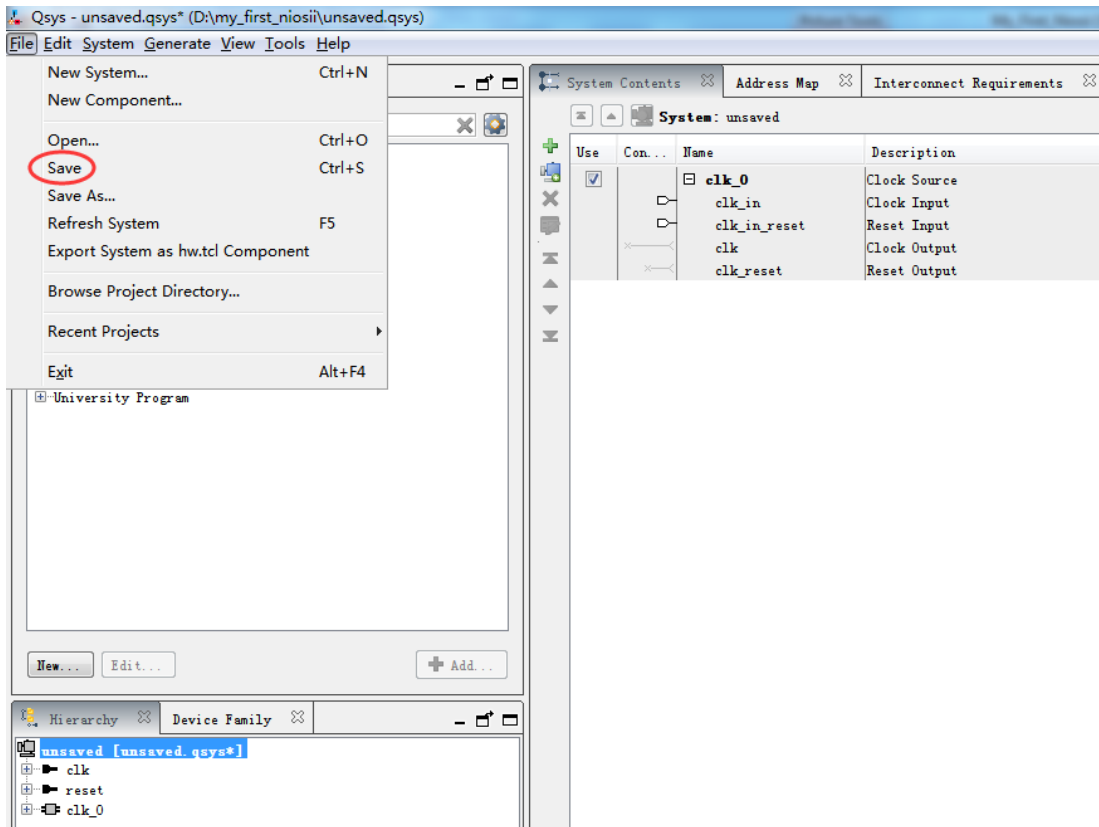
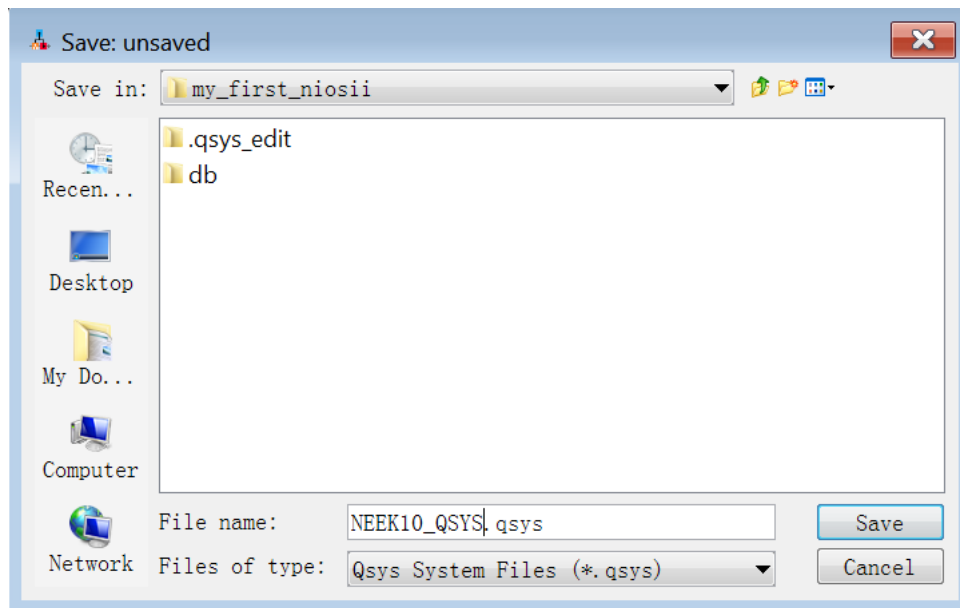

Figure 1-11 Select File -> Save in Qsys
Figure 1-12 Enter "NEEK10_QSYS.qsys" as the file name
6. Choose **File** -> **Save** and enter “NEEK10_QSYS.qsys”, as shown in **Figure 1-11** and **Figure 1-12**.